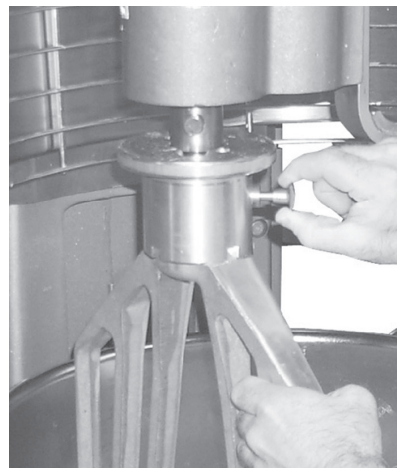

Fig. 3
3. Hold the agitator and pull the plunger of the agitator out (Fig. 3). Slide agitator down off the agitator shaft.